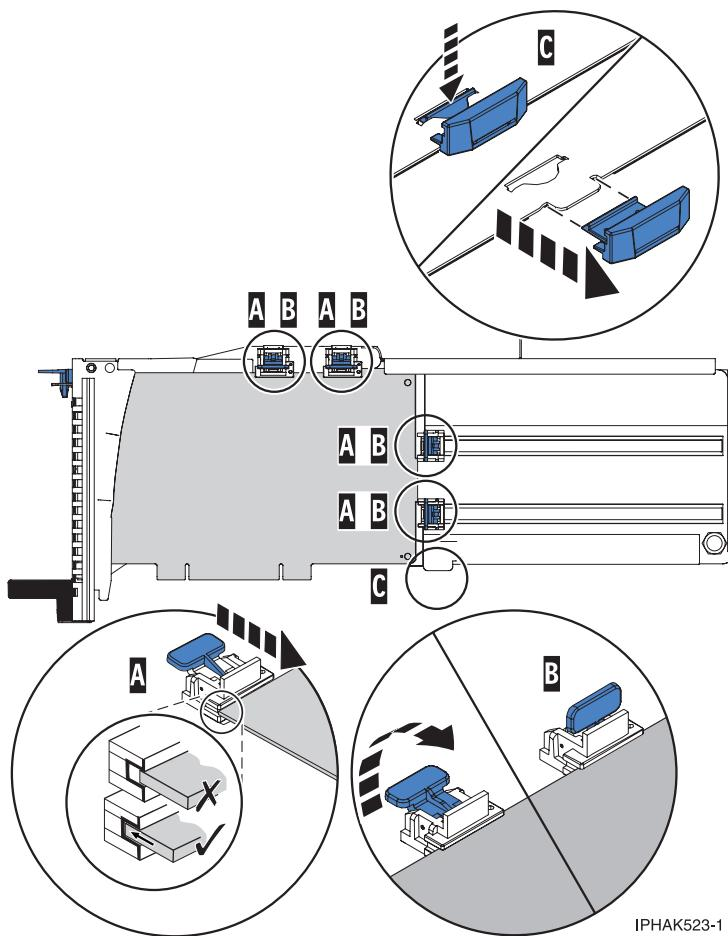

Figure 137. Medium-length adapter in the PCI adapter cassette with the supports in place
- a) Remove the adapter stabilizer (C). See Figure 137 on page 152.
- b) Place and lock the retainers (B).
- c) Ensure the adapter edge is seated in each retainer groove (A). If the shape of the adapter or the presence of a connector will not allow the adapter edge to be seated into the retainer groove, ensure the retainer is still locked firmly against that edge or connector.